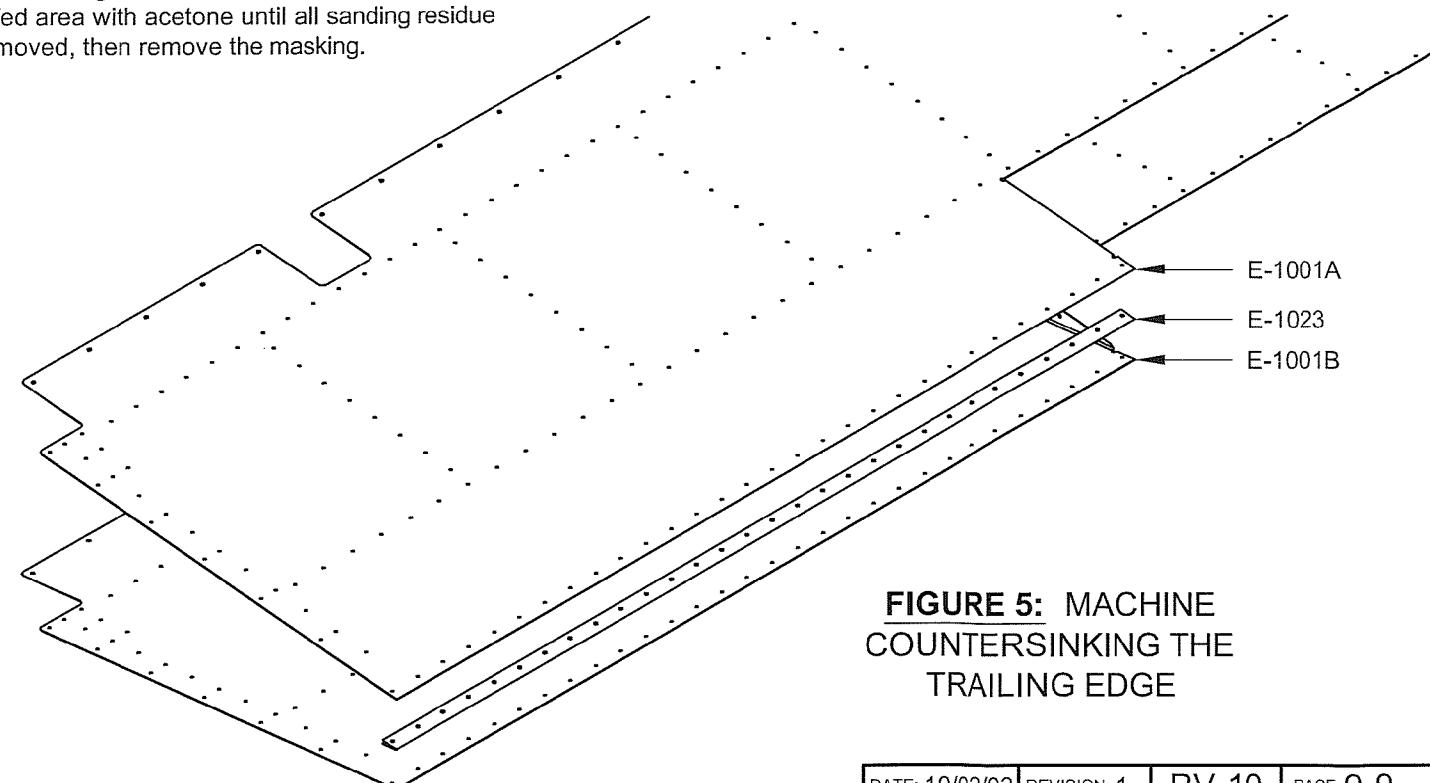

**FIGURE 4: DIMPLING THE TIP RIBS**
Step 4: Dimple the two holes, indicated in Figure 4, in the web of the E-904 Inboard Tip Rib for 1/8" flush rivets.
Step 8: Foam ribs are bonded to the trailing edge of the E-1001A & B Skins in a later step. The bonding agent (fuel tank sealant) requires a clean, scuffed surface for proper adhesion. To accomplish this, mask the inside surfaces of the E-1001A & B Skins around the locations for the trailing edge ribs. (The rib locations can be found on Page 9-14, Figure 4.) Scuff the skins in the locations of the ribs with 150 grit aluminum oxide sandpaper, clean the scuffed area with acetone until all sanding residue is removed, then remove the masking.